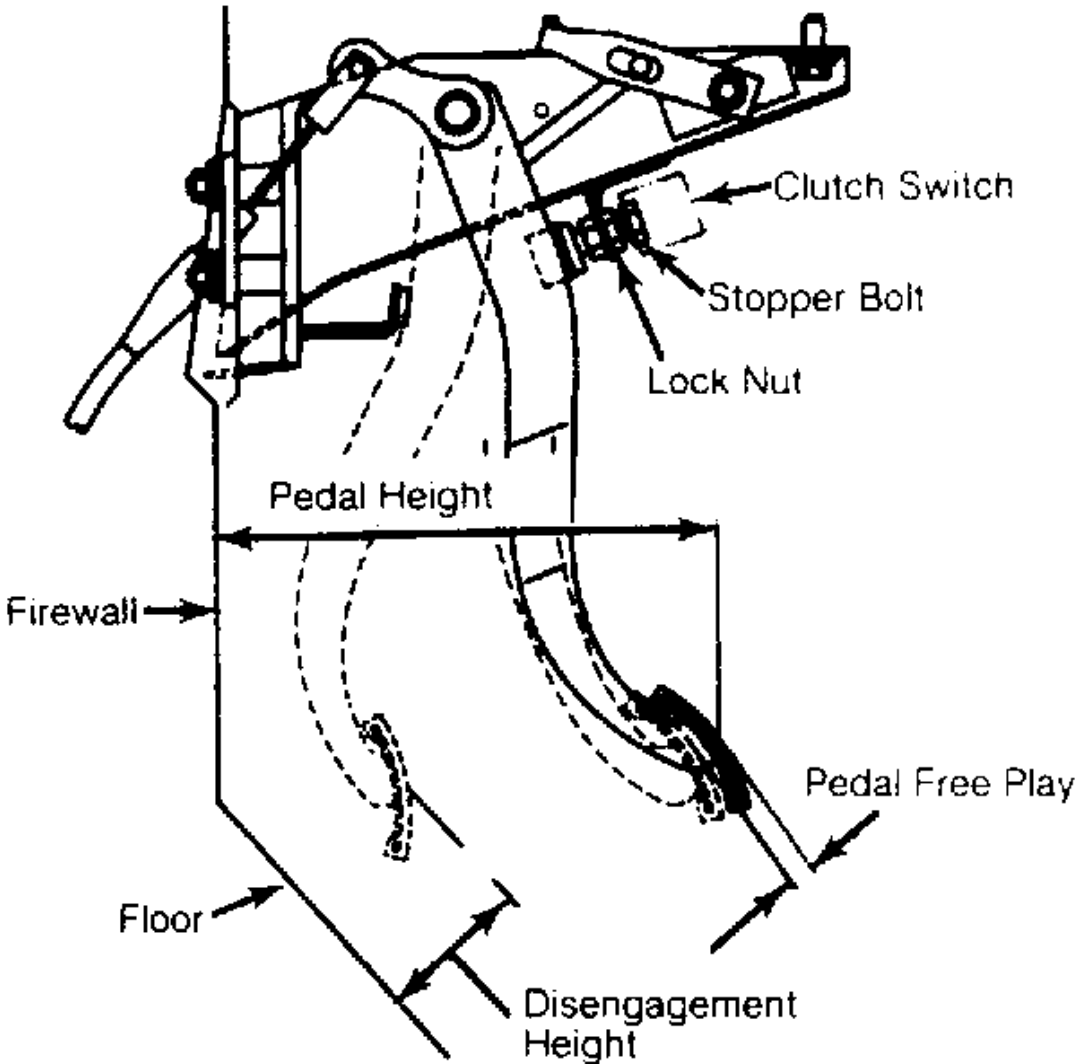

Fig. 1: Adjusting Clutch Pedal
- Measure clutch pedal movement from parked position to first indication of clutch application. See Fig. 1 . Free play must be within specifications. See CLUTCH PEDAL SPECIFICATIONS .
1. Disconnect clutch cable from release lever at transaxle. Measure distance from upper center of pedal to firewall. See Fig. 1 . If not within specifications, check pedal mounting for wear or damage. See CLUTCH PEDAL SPECIFICATIONS .